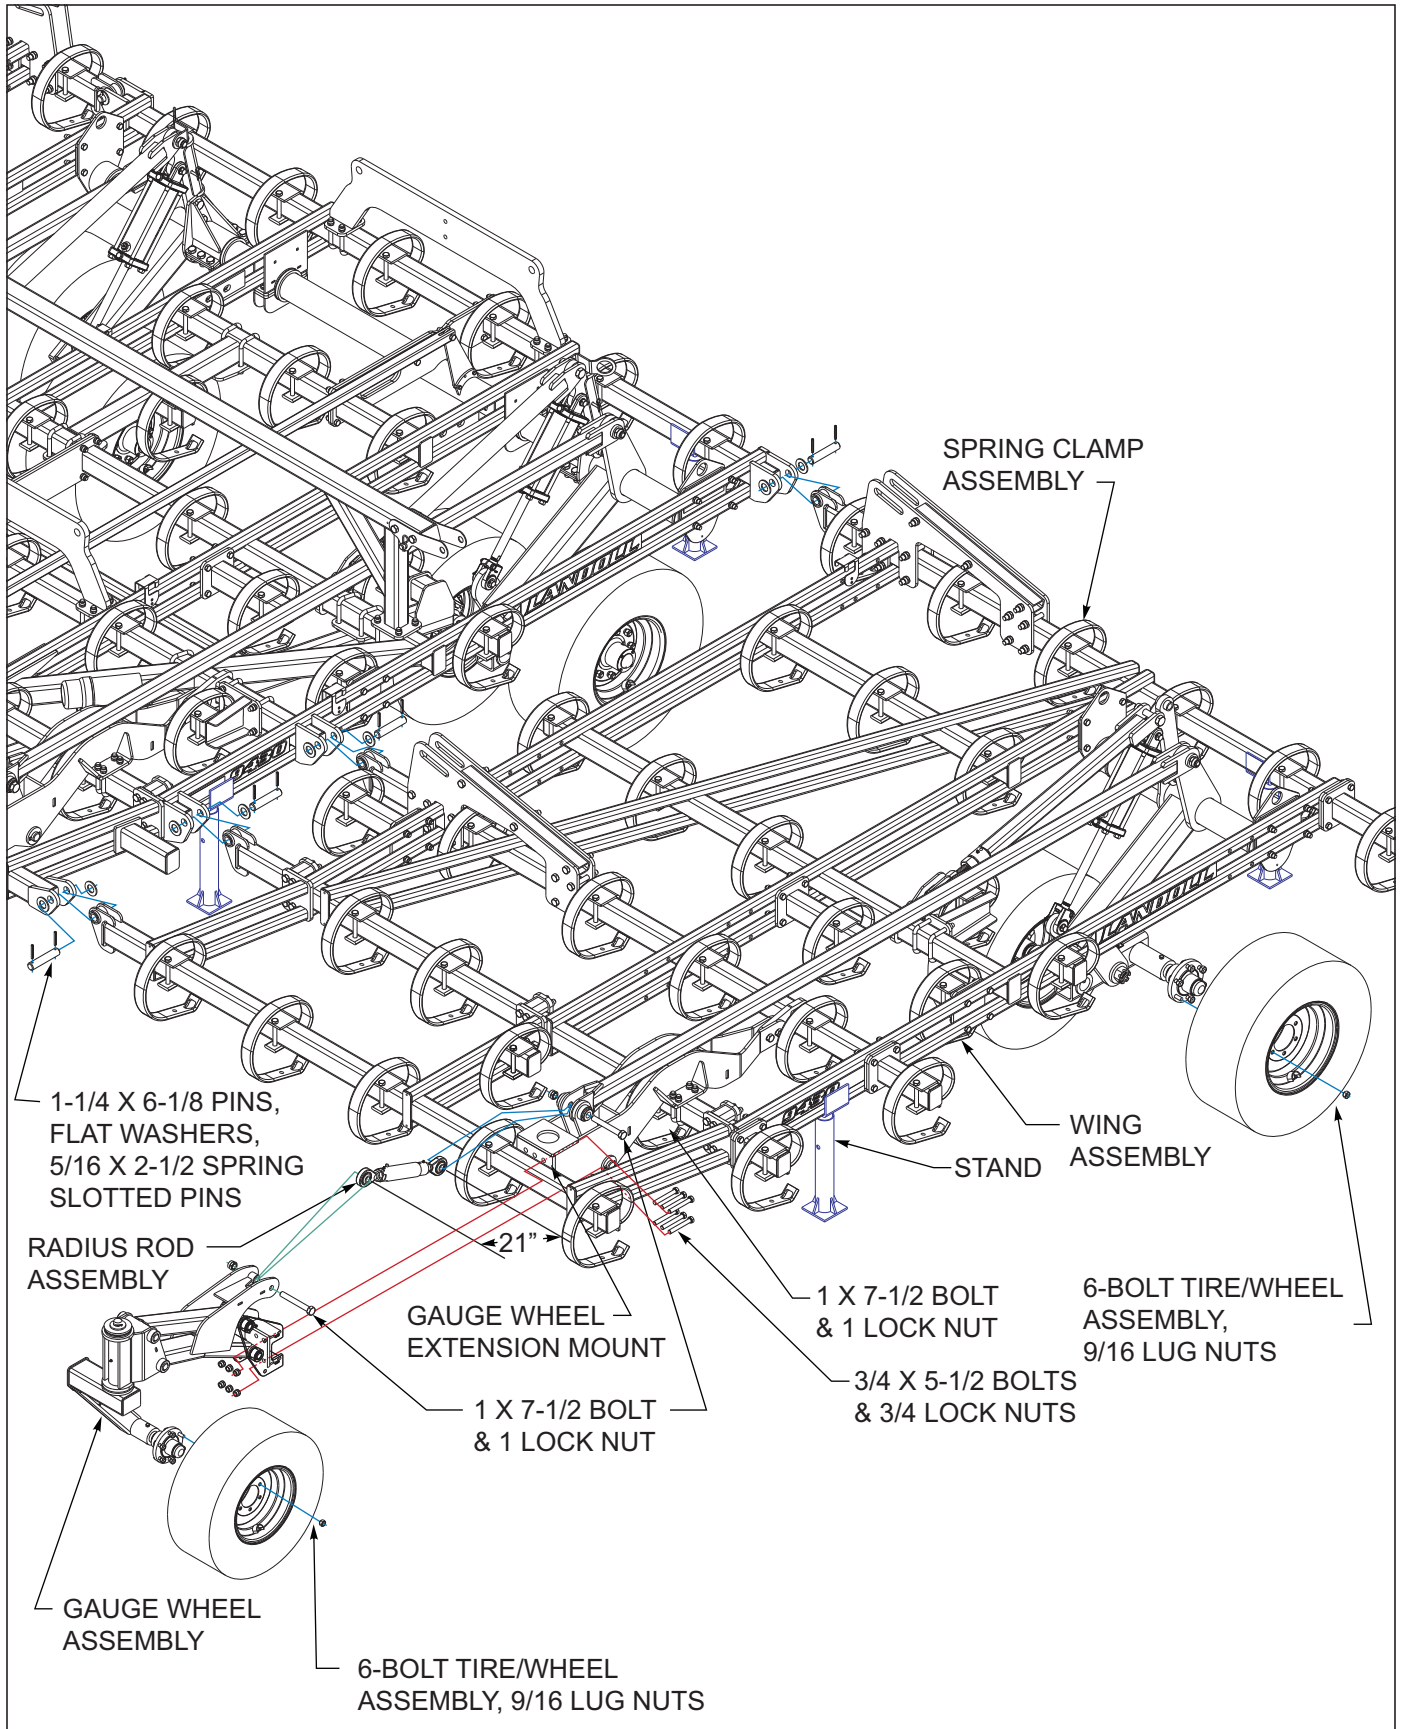

Figure 3-5: Wing Assembly
1. Attach wing frame assemblies to center frame using flat washers, 1-1/4 x 6-1/8 pin and 5/16 x 2-1/2 spring slotted pins *See Figure 3-5*.
1. Remove the 1 x 7-1/2 bolt and 1 lock nut from the gauge wheel extension mount assembly *See Figure 3-5*.